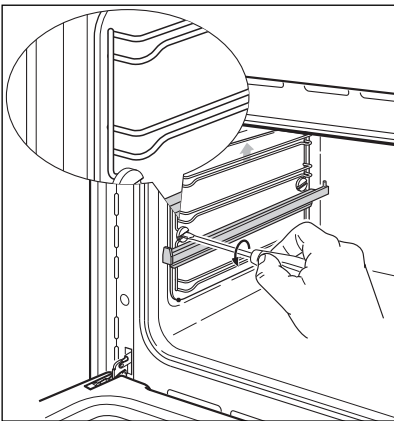

Fig.32 Removing the side racks
- 1 Remove the side racks by unscrewing the fixing screws at the front (Fig. 32).
- 1 Screw the side racks onto the oven wall. Ensure they are the right way up (Fig. 32).